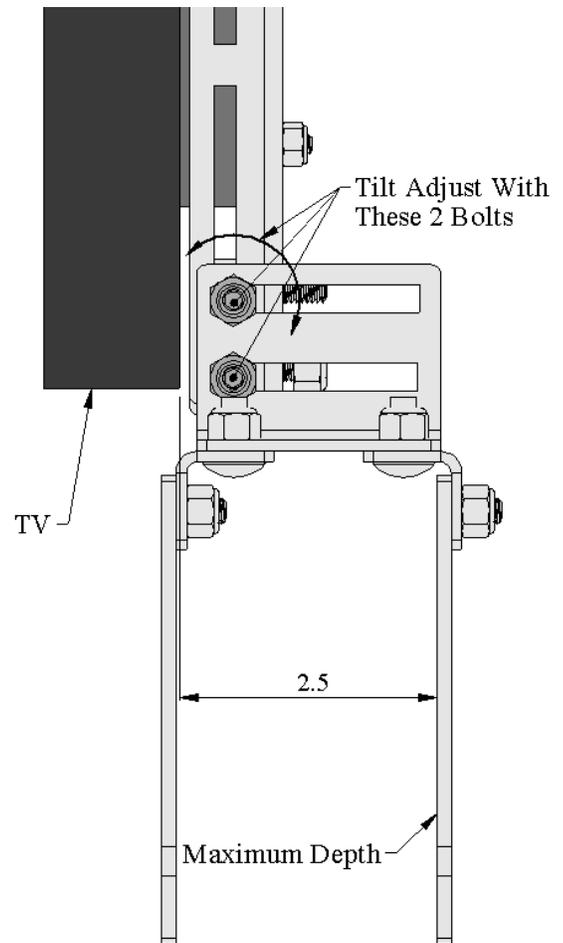

Figure 2 Depth Adjustment
3. Figure 2 shows the range of depth for the bracket, and how to adjust the tilt.